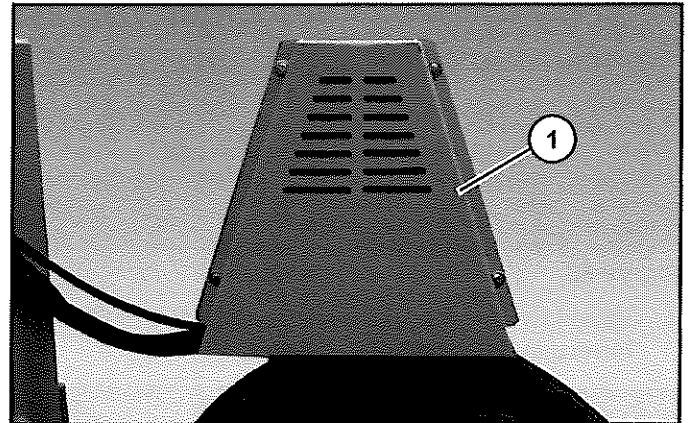

Figure 86
2. Remove the power travel guard (Item 1) (Figure 86).